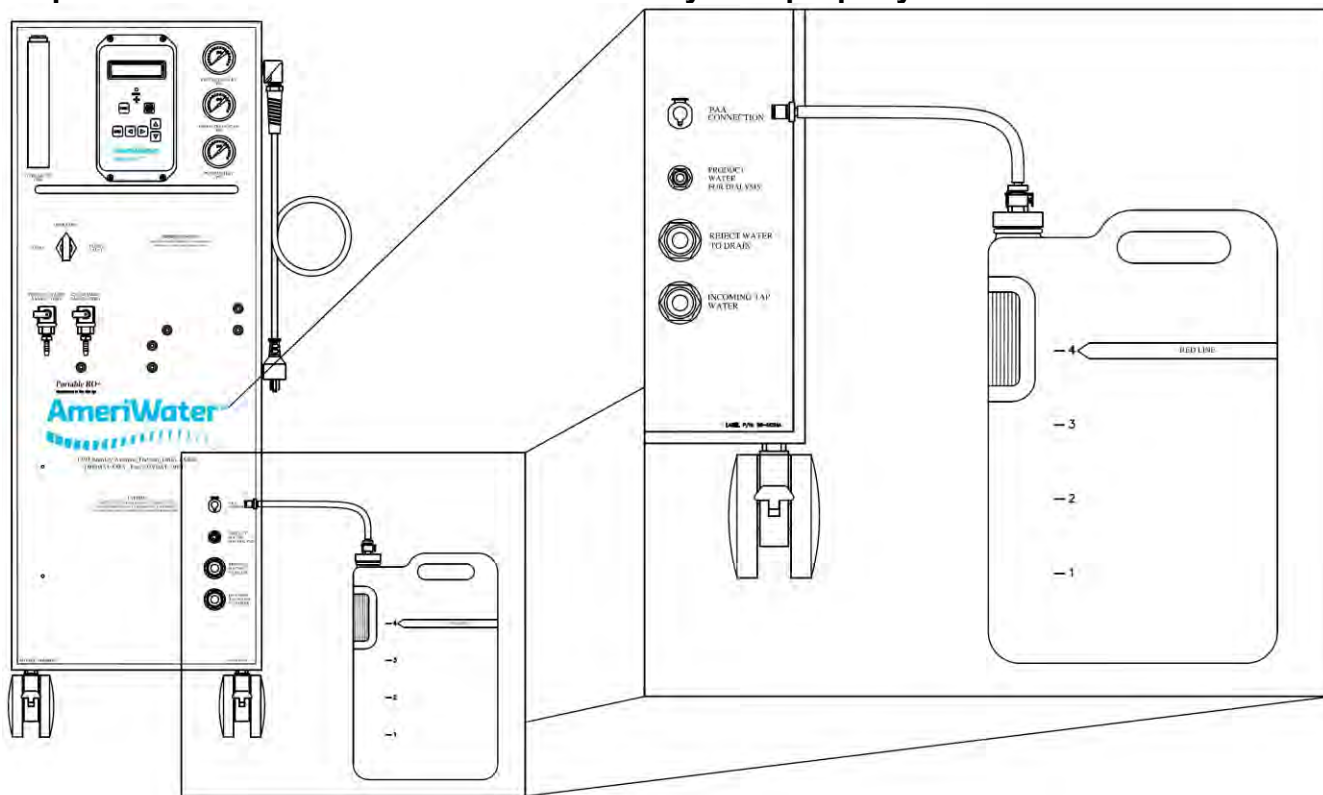

FIGURE 5.1
5. Unscrew the cap assembly of the PAA container (plastic gallon container, see Figure 5.1).
8. Connect the PAA tubing to the PAA connection on the front of the RO+ (Figure 5.1).